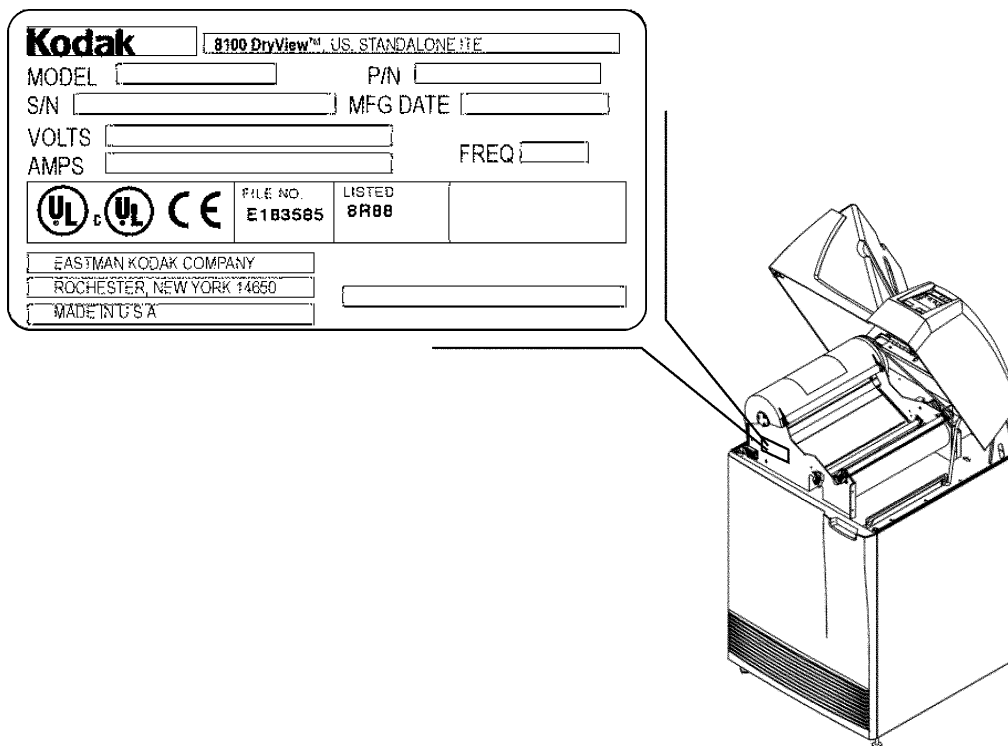

Figure 5-9. Serial Number Location
- Serial Number: For serial number location, see Figure 5-9.